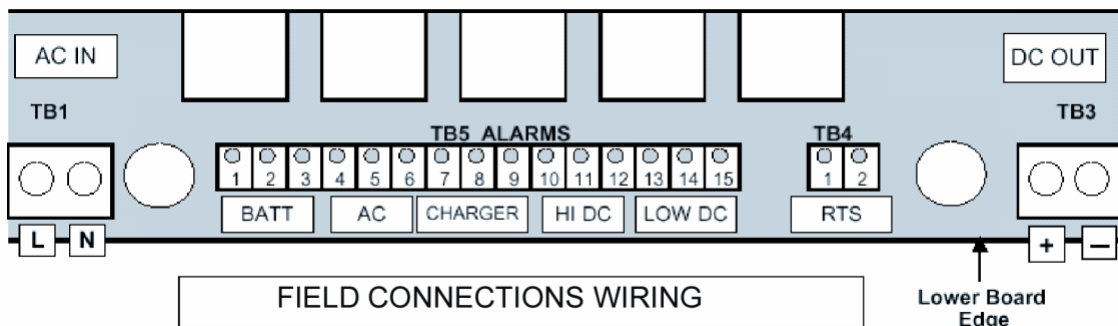

FIGURE 2A
- Connect the DC output conductors to TB3. Make the connections in the order shown in Figure 2A (negative ground) or Figure 2B (positive ground). The terminals accept 14 through 6 AWG (2.5 through 16 mm²) conductors. Tighten connections to 10.5 Lb-In (1.2 Nm).